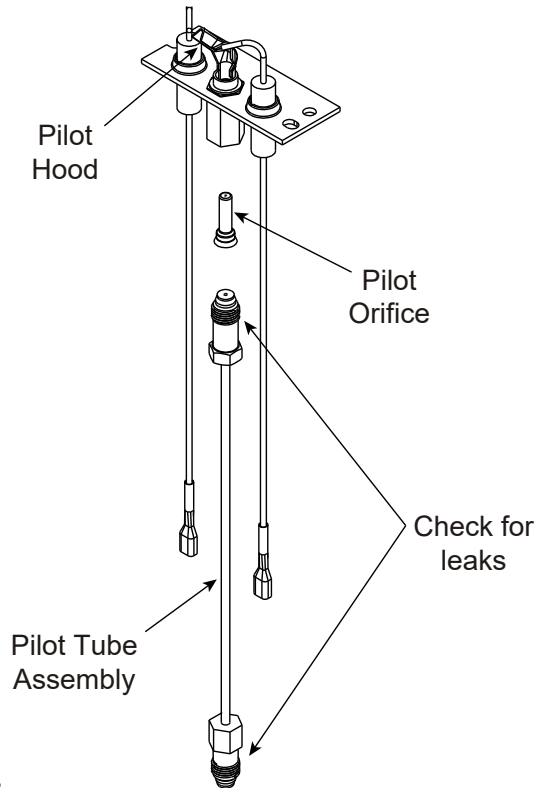

Figure 3
8. Remove the existing pilot orifice and replace it with the pilot orifice included in the kit. Ensure the pilot orifice is appropriate for the type of gas to which you are converting the appliance. See Figure 3.
3. Turn appliance "ON" and use a commercially available, non-corrosive leak check solution to test for leaks around the pilot fitting. See Figure 3.